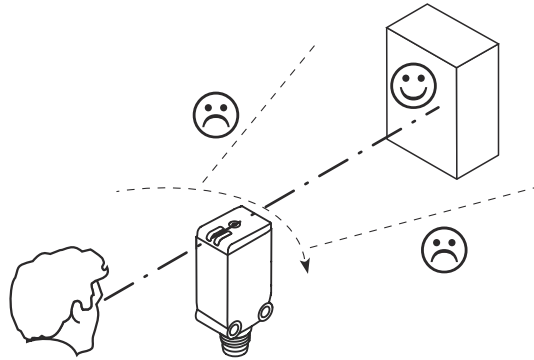

Figure 4: Sensor alignment
3. Align the sensor with the object. Select the position so that the red emitted light beam hits the center of the object. You must ensure that the optical opening (front screen) of the sensor is completely clear. see figure 4, page 28